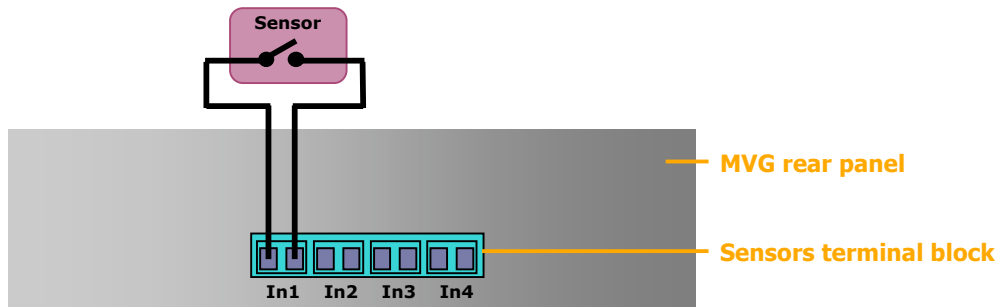

Figure 12: Connecting a sensor
2. Connect the two wire contacts of the sensor or switch to the Sensors terminal block on the rear panel of the MVG, as illustrated in figure 12. Insert the wires into the connectors and tighten the screws below each connector to hold the wires in place.